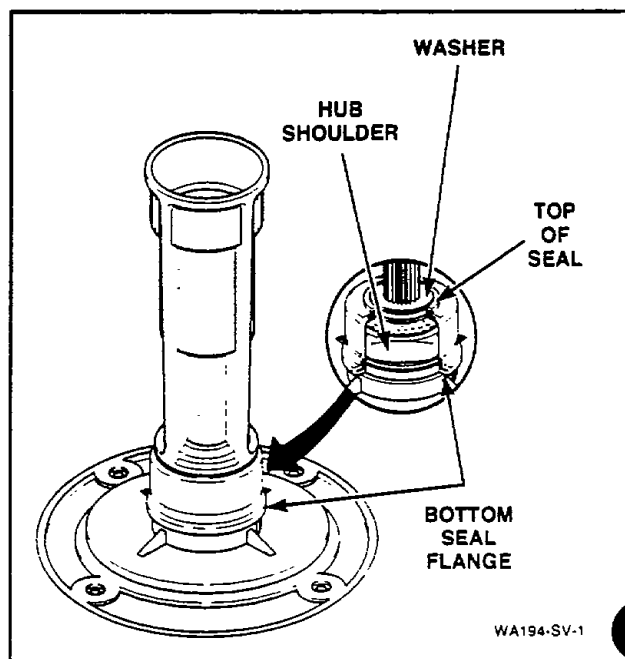

Figure 57
- l. Turn seal tool upside-down and place small end over output shaft and onto washer, *Figure 57*.
- m. Push down on tool with a quick motion until tool bottoms out and top of seal is fully seated, *Figure 57*.